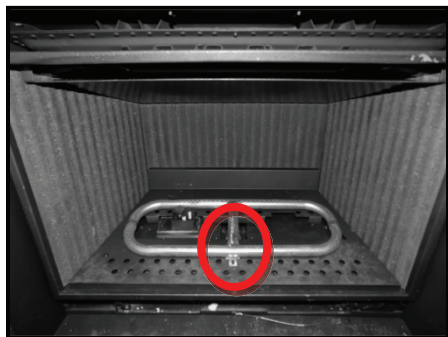

Figure 44
1. Remove the screw holding the burner to the burner tray (Figure 44).